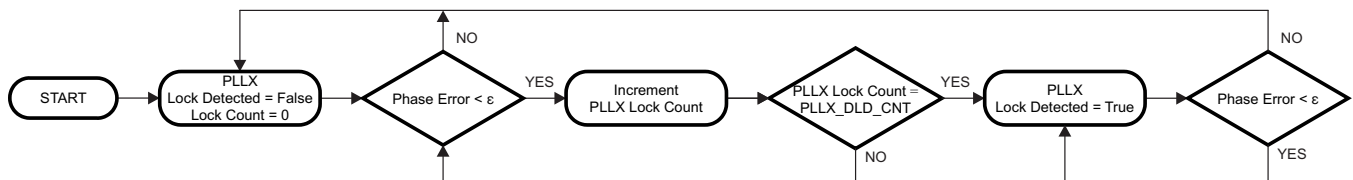

Figure 13. Digital Lock Detect Flowchart
Both PLL1 and PLL2 support digital lock detect. Digital lock detect compares the phase between the reference path (R) and the feedback path (N) of the PLL. When the time error, which is phase error, between the two signals is less than a specified window size (ϵ) a lock detect count increments. When the lock detect count reaches a user specified value, PLL1_DLD_CNT or PLL2_DLD_CNT, lock detect is asserted true. Once digital lock detect is true, a single phase comparison outside the specified window will cause digital lock detect to be asserted false. This is illustrated in Figure 13.